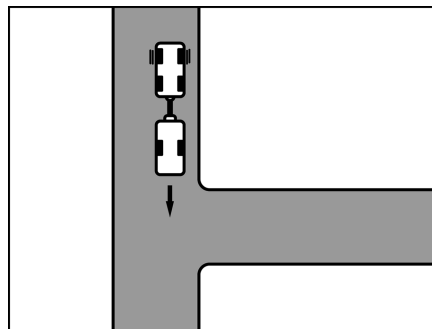

Fig. 9 Approach
- Drive up to the entrance until the rear of the caravan is roughly level with the entrance (Bild 9).